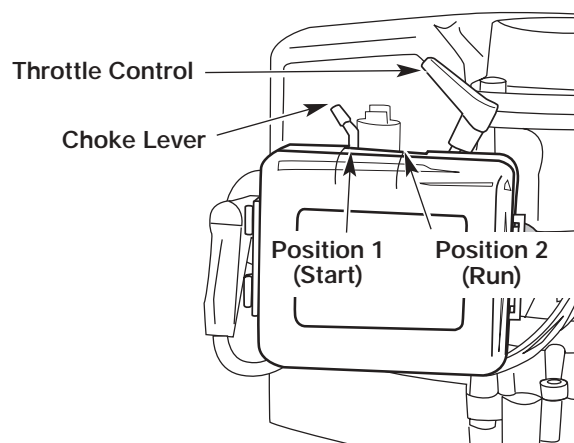

Fig. 3
3. Place the choke lever in Position 1- Start (Fig. 3).